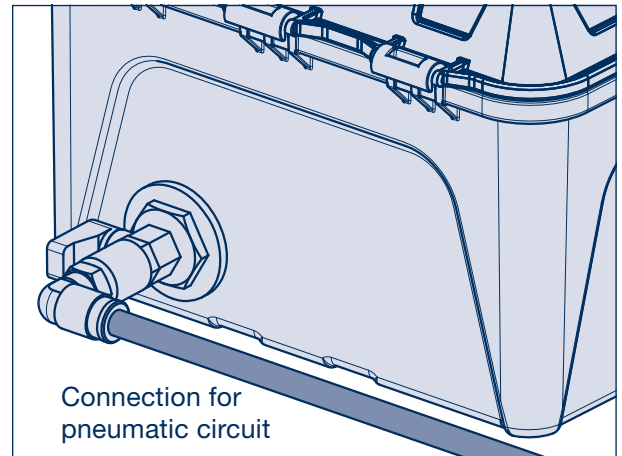

Figure 20
- [1] For axles with air suspension, connect supply lines (\varnothing 8 x 1 mm PA line) to the AirSave Control Box (Figure 20) directly at the air tank of the trailer air suspension.